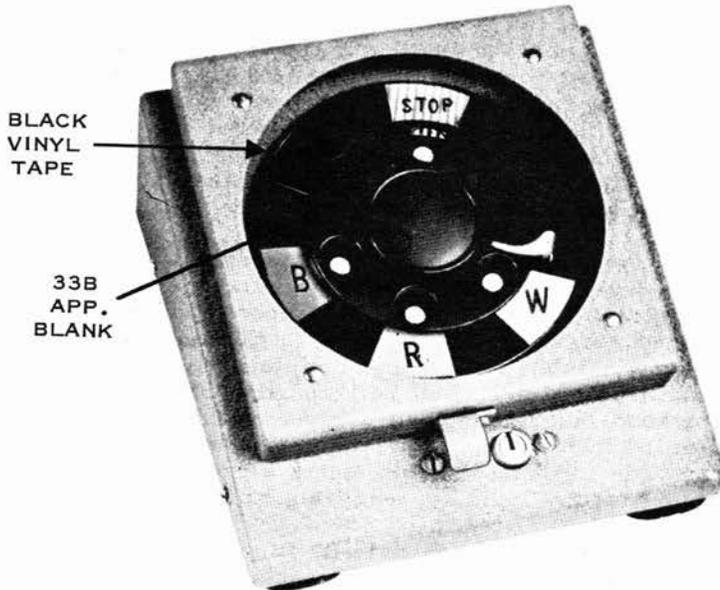
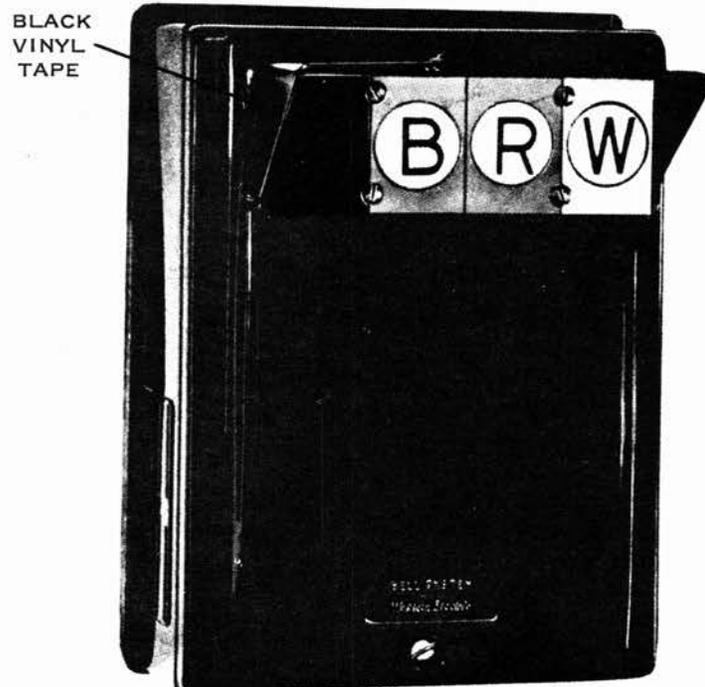

Fig. 1 - CADW Dial with Cover Closed
Fig. 2 - CADW Station Signal Indicator
1.04 Equipment at the control locations consists of a special dial (Fig. 1) and a station signal indicator (Fig. 2) arranged to provide coded visual signals, as well as the associated coded or noncoded audible signals. At the warning stations, either the station signal indicator which incorporates the audible signal or an audible-only signal is installed.
2.03 The station signal indicator shown in Fig. 2 is a modified 531A subscriber set having four 359A cold cathode electron tubes with several resistors. The tubes protrude through an opening in the subscriber set cover, and are protected by a plastic designation strip which diffuses the tube brilliance through a translucent window. The set is so wired that the signal dialed lights the corresponding tube.
5.03 *At locations with CADW Dial (Fig. 1):*
5.04 *At locations with CADW Station Signal Indicator, trim black vinyl tape to cover (Y) Indicator as shown in Fig. 2.*